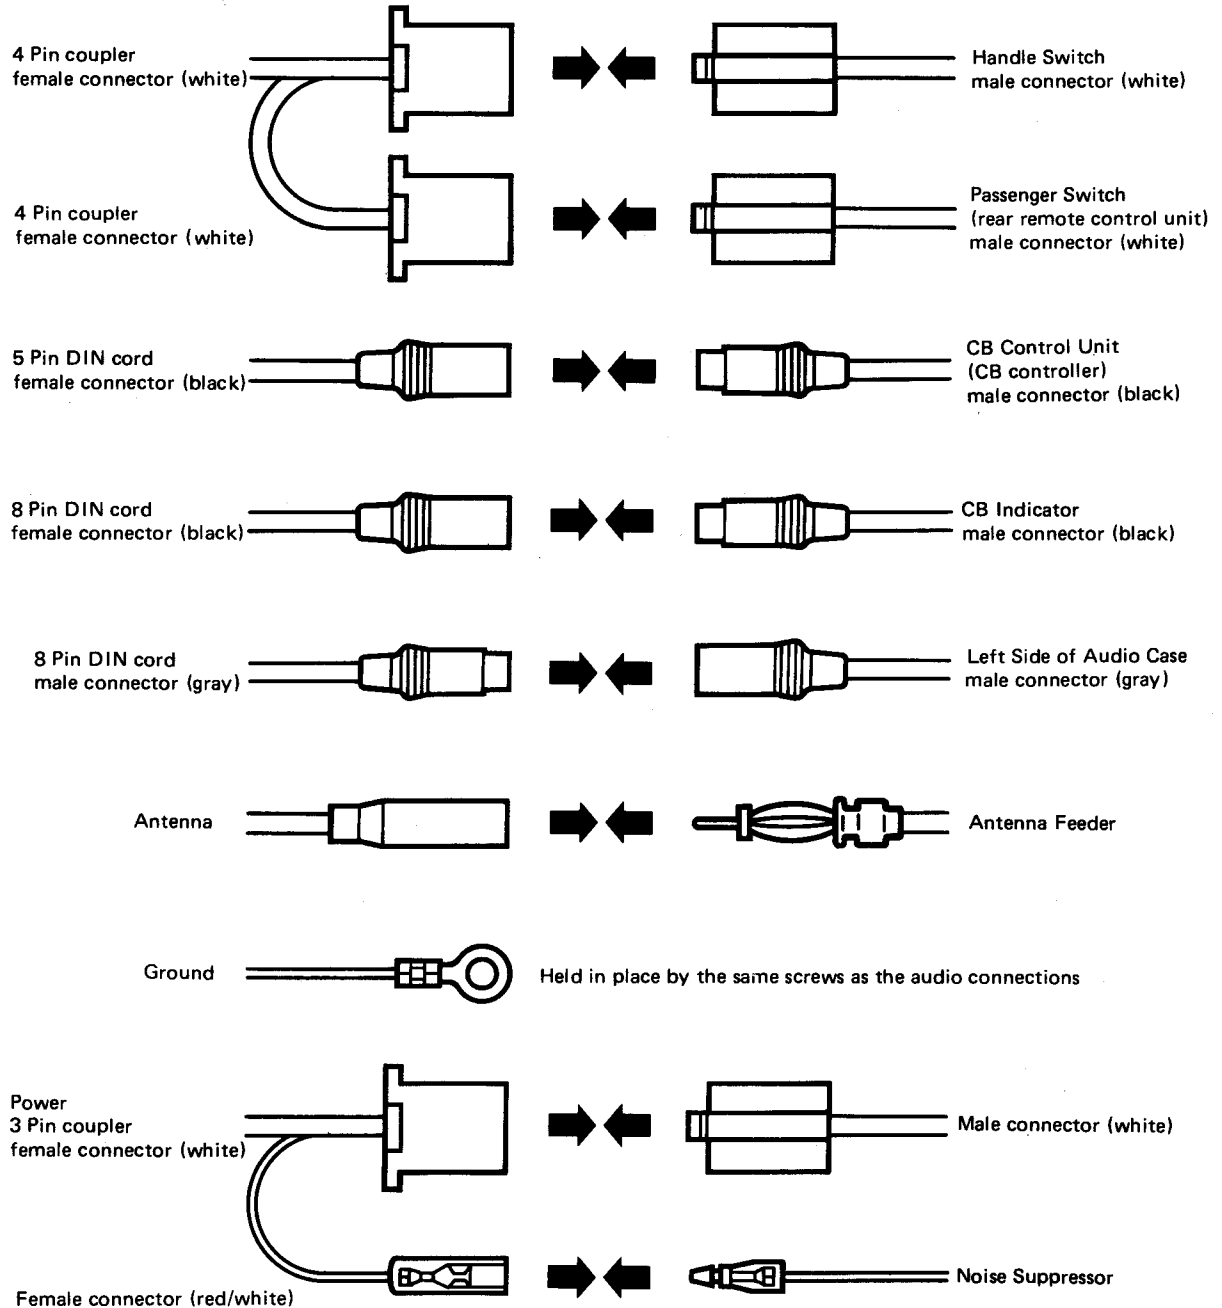

Fig. 1
1. (1) Connect the bundled wires following Fig. 1, and according to Fig. 2. The ground eyelet is fixed in place at the same place as the audio connections with the vehicle side screws.